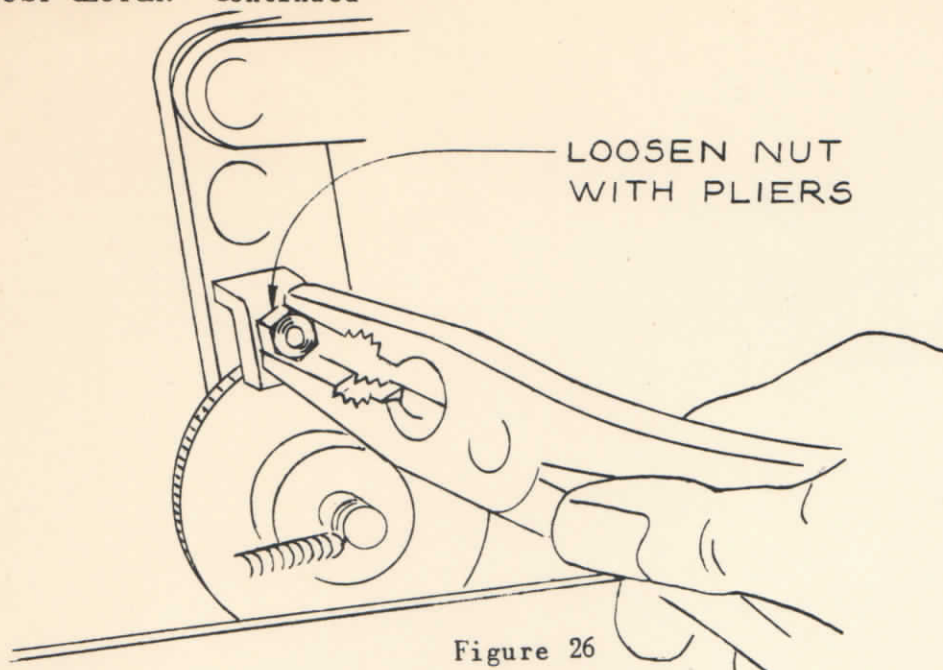

Figure 26
2. With a pliers, loosen nut that locks knurled adjustment wheel. (Figure 26)